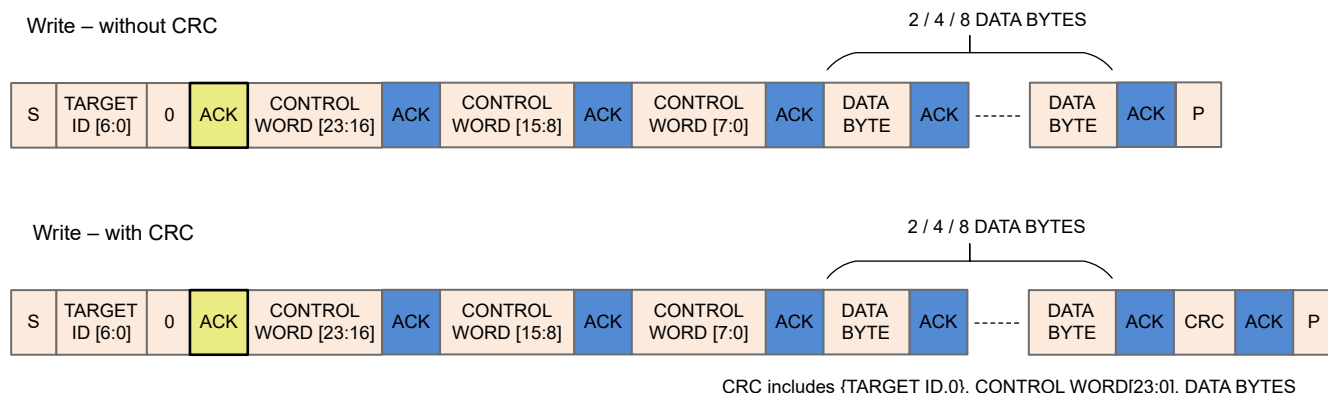
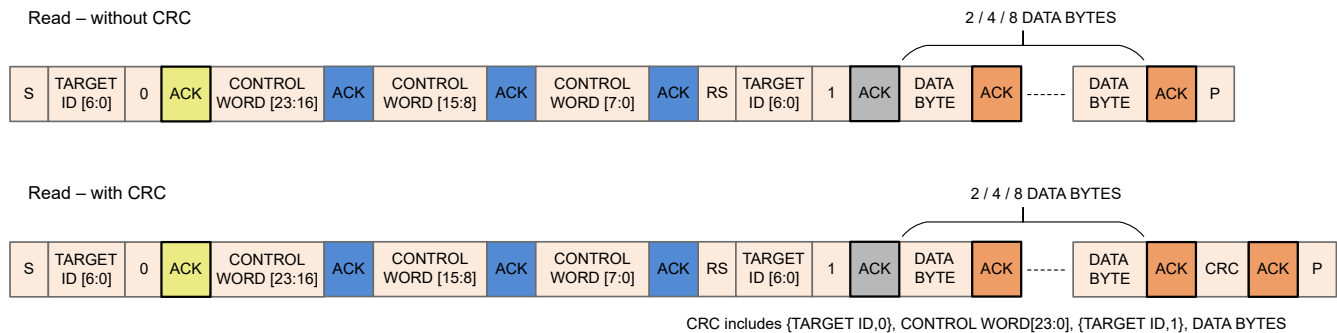

Figure 6-67. I²C Write Transaction Sequence
Figure 6-68. I²C Read Transaction Sequence
MCF8315D write transaction over I²C involves the following sequence (see Figure 6-67).
MCF8315D read transaction over I²C involves the following sequence (see Figure 6-68).
- When target ID is a match, I²C peripheral in MCF8315D raises a start interrupt request. Until this start interrupt request is processed, clock is stretched. Upon processing this request, clock is released and an ACK (marked in yellow or grey in Figure 6-67 and Figure 6-68) is sent to the controller for continuing with the transaction.
- Receive interrupt pending:** When a receive interrupt is waiting to be processed and the receive register is full which occurs when two successive bytes (data or control) have been received by MCF8315D (separated by one ACK shown as blue boxes in Figure 6-67 and Figure 6-68) without the receive interrupt generated by the first byte being processed. Upon receive of second byte, clock is stretched until receive interrupt generated by the first byte is processed.